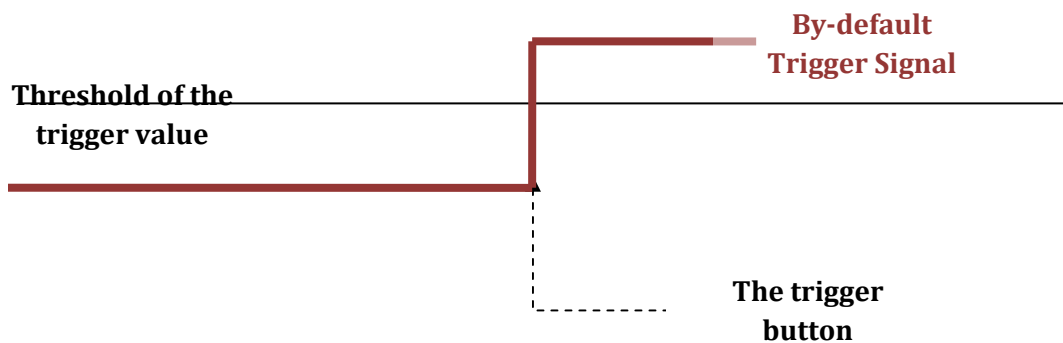

Figure 6 Predefined Run Trigger
① **Start Trigger:** it switches the state of the acquisition from *ready* to *running*. That means that the system will stand still waiting for the run trigger to acquire the data.
② **Run Trigger:** after the acquisition *starts*, this trigger enables the signal acquisition. Once every n ms, where n is the sampling time selected by the user, and once the start trigger has been switched on, the acquisition object will check the run trigger. If it is on (see Figure 6 below) the value of the variables will be stored creating one point of the acquisition.
③ **Stop Trigger:** it switches the state of the acquisition from *running* to *ready* and closes the acquisition file in the hard disk. This finishes a *Run* of the acquisition. Thus, the acquisition will be waiting for the change of state of the start trigger to make a second run with a new file name (see A.4 OUTPUT FILES).
④ **Finish trigger:** when this trigger is activated the acquisition object is deleted by the system and no more runs can be made with it. It is not possible to open another acquisition with the same name of the finished one for the current run of the master application either.